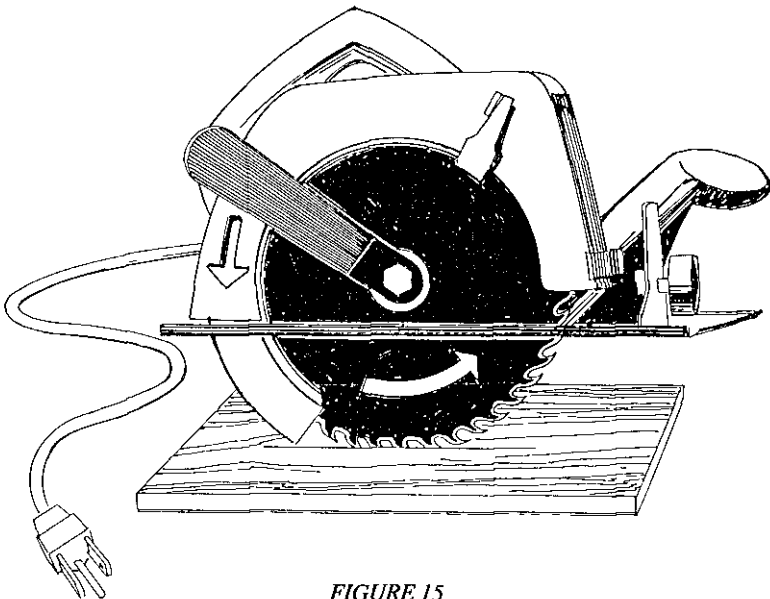

FIGURE 15
- 2 Place the saw blade on a piece of scrap lumber and press down until the teeth dig into the wood (Figure 15) This prevents the blade from turning when the locking nut is loosened or tightened Some machines are provided with a mechanical locking device